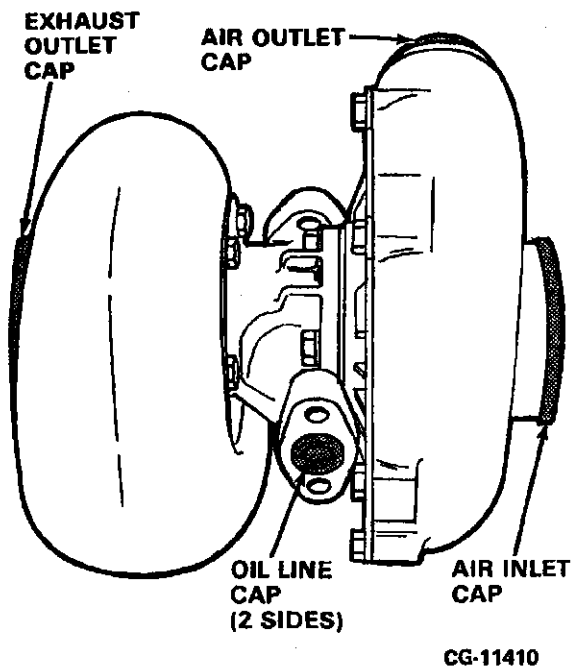

Figure 2.10. Install Protective Caps on Turbocharger when Removed for Service
- d. Assure all turbocharger openings are capped. (See Figure 2.10.)